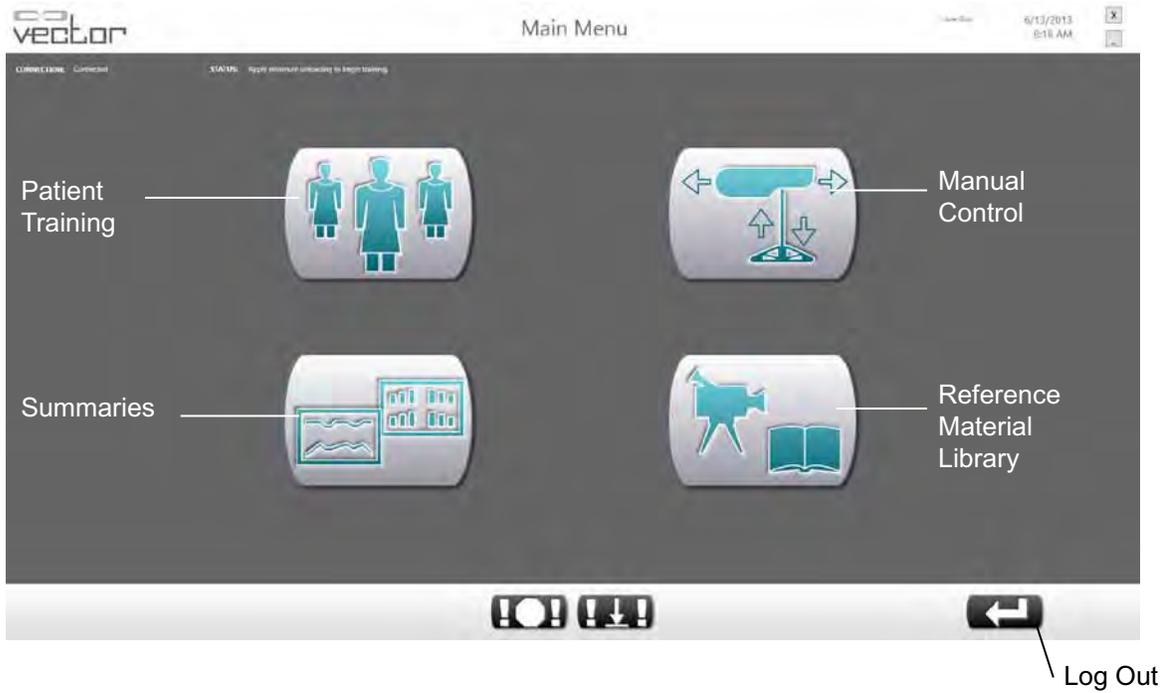

Figure 4-3: Main Menu Screen
3. After logging into the software the Main Menu screen will appear. See Figure 4-3. There are four menu options to choose from on the Main Menu screen:
1. From the Main Menu screen click on the Patient Training icon. See Figure 4-3. This will open the Patient menu screen. See Figure 5-1.
1. From the Main Menu screen click on the Patient Training icon. See Figure 4-3. This will open the Patient menu screen.